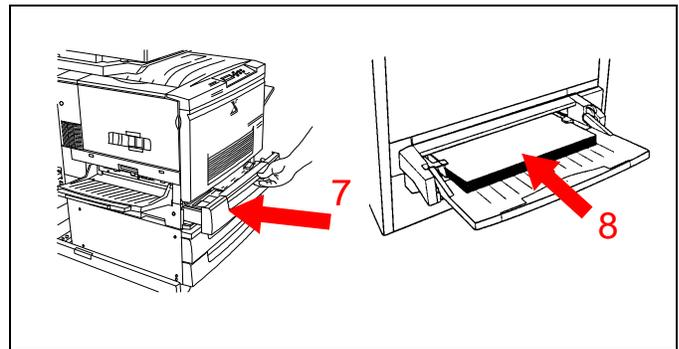

Figure 23
7. See Figure 23. Push the lower right unit back into the printer.